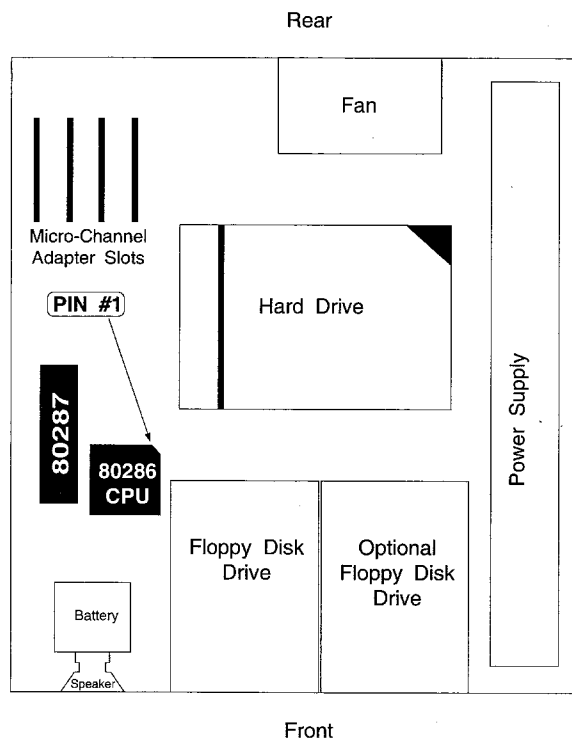

Figure 7. IBM PS/2 Model 50 System Board
- Note:** The position of pin 1 on the 80286 processor chip will determine **exactly** how the 386SLC or 486SLC2 Cached Processor Upgrade Card will be installed. The location of pin 1 shown in figure 7 is correct for the motherboards we have worked with in developing the card. It is possible that alternative motherboard designs or engineering levels exist and the location of pin 1 on your motherboard is definitive.